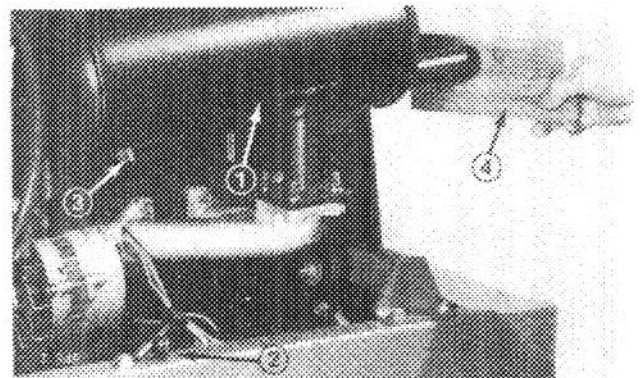

Figure 53
2. Remove pipe plug from clean-out port at lower side of muffler (Fig. 53).
3. Start engine. Plug the normal muffler exit with block of wood or metal plate so exhaust flow will be forced out of the clean-out port (Fig. 53). Continue to block exit until carbon deposits cease coming out port.